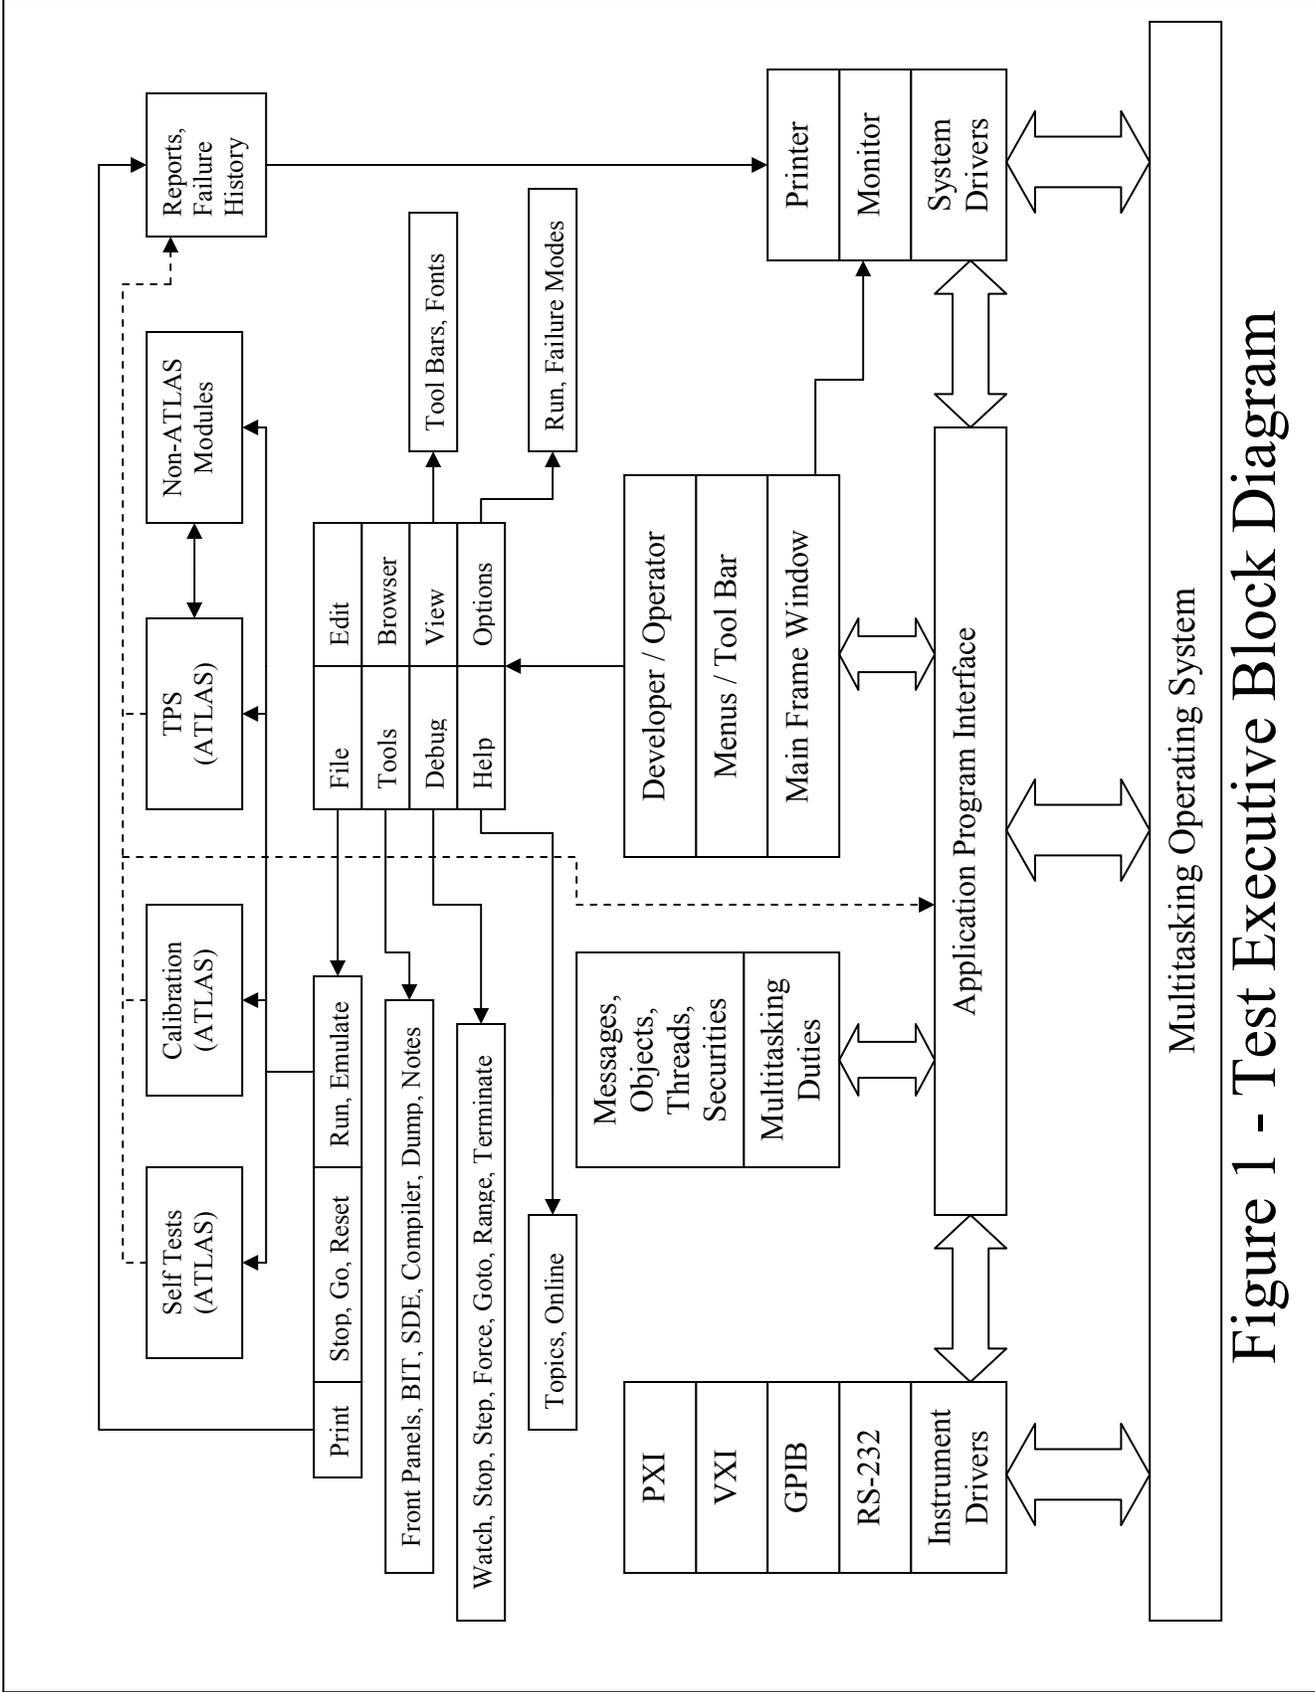

Figure 1 - Test Executive Block Diagram
With commercial of the shelf (COTS) test equipment readily available, assembling an assortment of VXI, PXI, LXI or GPIB hardware to satisfy a wide range of testing capabilities is not too difficult. However, getting the hardware to perform a wide variety of automated tasks in the form of a TPS relies heavily on the system software. System software includes the operating system (OS), the Test Executive, instrument drivers and associated dynamic link libraries (DLL), and the TPS executables. While all are important, the piece of software that pulls the others pieces together to create a high performance test environment is the Test Executive. The block diagram shown in Figure 1 helps portray how the software pieces interact and work with each other.